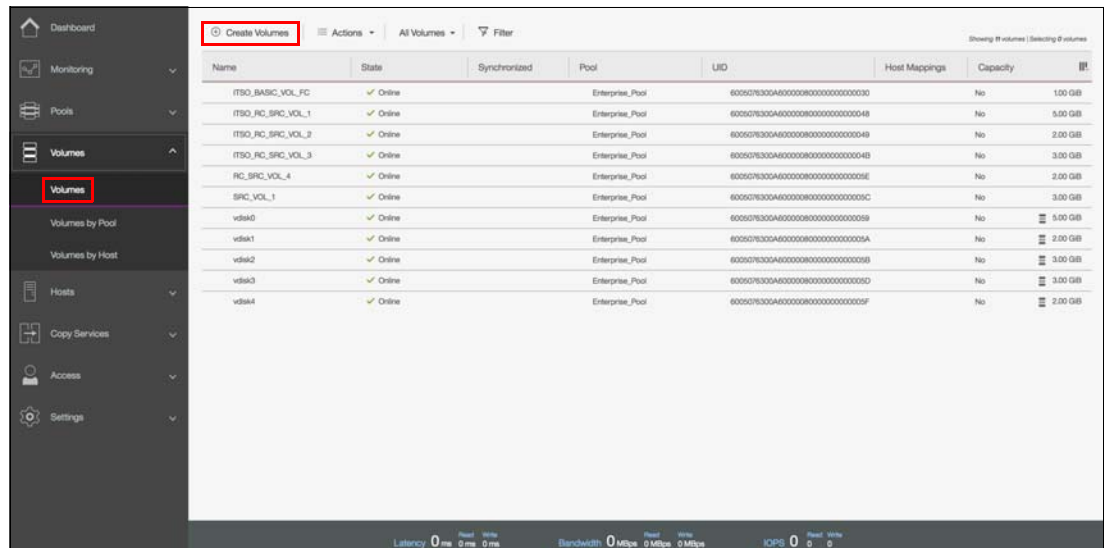

Figure 9-24 Volumes panel
1. Navigate to **Volumes** → **Volumes** and click **Create Volumes** as shown in Figure 9-24 on page 435.